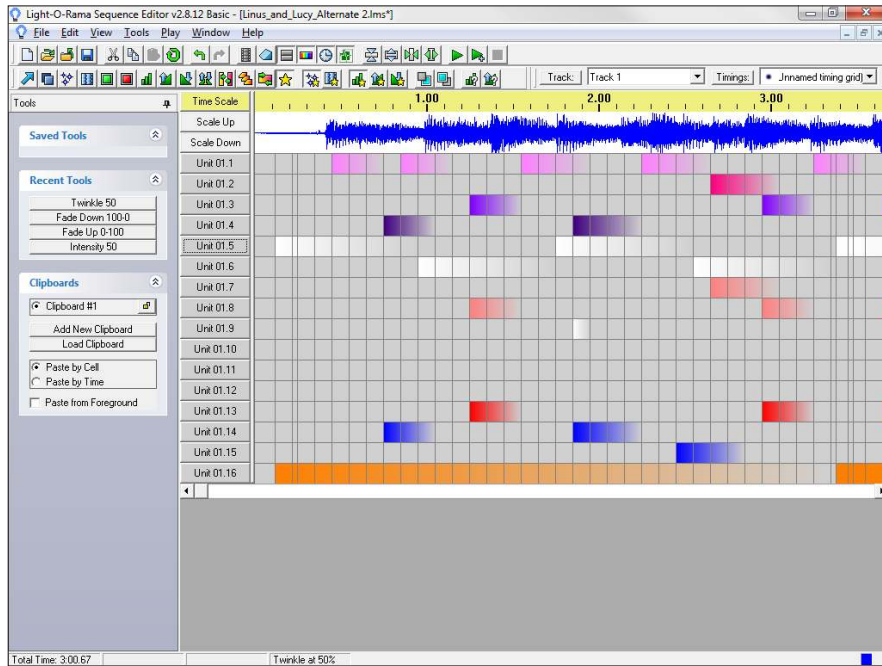

Figure 3-12:
- ◆ If it helps, you can make the wave file visible by choosing View↔WaveForm. Figure 3-12 shows a sequence with the waveform visible.